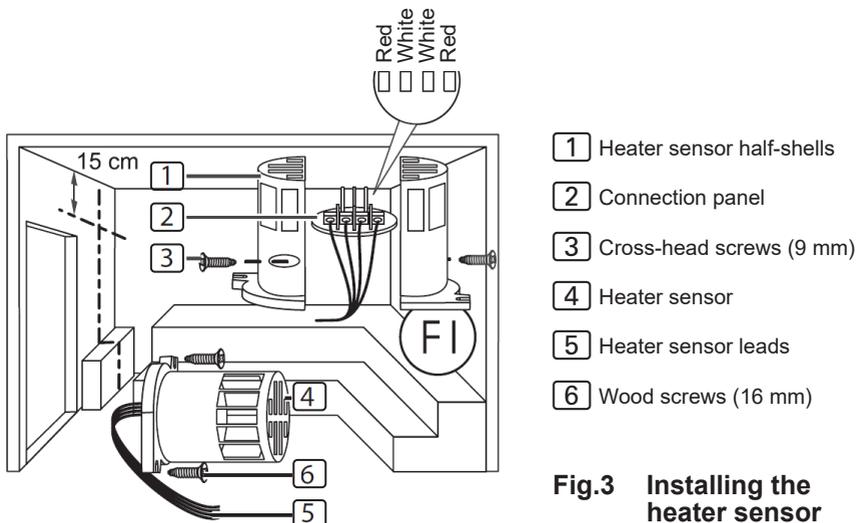

Fig.3 Installing the heater sensor
To install the heater sensor, carry out the following steps (see **Fig.3**):
3. Connect the four connections for the heater sensor lead **5** in accordance with **Fig.3**.
4. Place the connection panel **2** crossways (as shown in **Fig.3**) in the heater sensor half-shells.